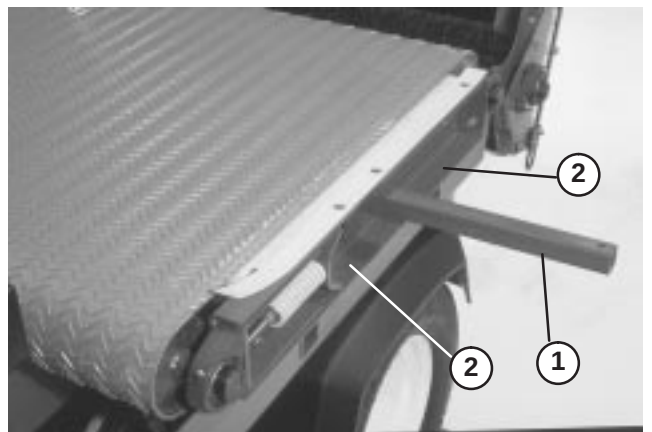

Figure 32
7. Remove (2) capscrews, washers and nut, on left side of machine, securing slider bed to frame (Fig. 32).
- Insert a lift bar into hole on left side of machine and raise lift bar to tip slider bed (Fig. 32).